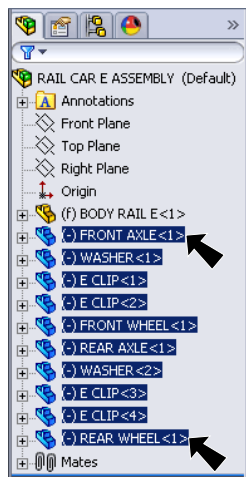

Fig. 34
Step 1. Click **Zoom to Fit**  (F) on the View toolbar.
Step 2. **Shift click** all Parts in the Feature Manager **except BODY RAIL E**, **Fig. 34**. To Shift click, click **FRONT AXLE1**, hold down the Shift key and **REAR WHEEL1**.